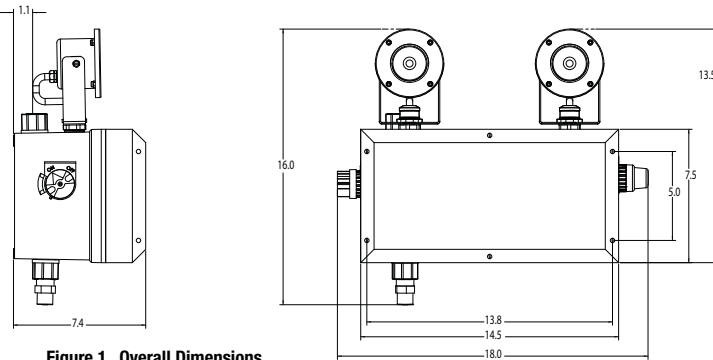
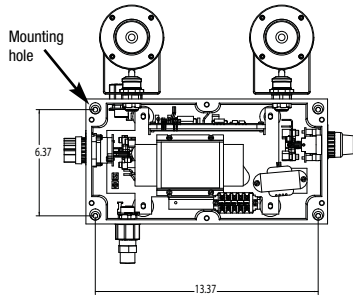

Figure 1. Overall Dimensions
Figure 2. Mounting Dimensions
1. Refer to overall dimensions (see Figure 1) to select a mounting location that will provide suitable strength and rigidity for supporting power supply and attached fixtures. See Figure 2 for mounting dimensions.
2. Loosen (do not remove) the captive cover screws (6) of the power supply housing and carefully place the cover aside for reassembly later.
3. Securely fasten the power supply enclosure to the mounting location using the appropriate length 1/4" diameter hardware through the four (4) mounting holes shown in Figure 2.